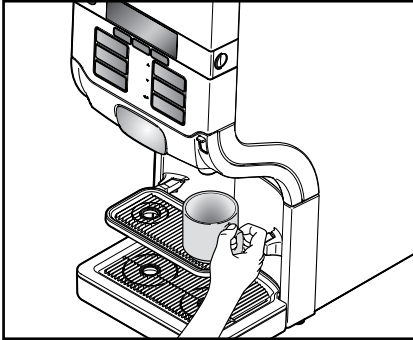

Fig. 10
- Place your cup on the cup tray (fig. 10).
1. Place your cup on the cup tray (fig. 10).